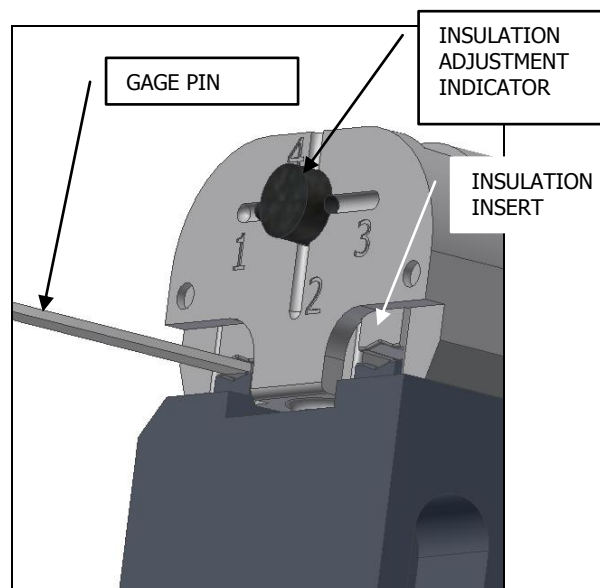

Figure 4
2. Insert the appropriately sized GO gage (Green) into the insulation cavity of the die (Red or Blue) you are trying to gage (See Figure 4).
6. Attempt to insert the NO-GO gage (Red) into the insulation cavity of the die (Red or Blue) you are trying to gage (See Figure 4). The NO-GO gage (Red) member may enter slightly into the die cavity, but should not pass fully through the cavity. If the